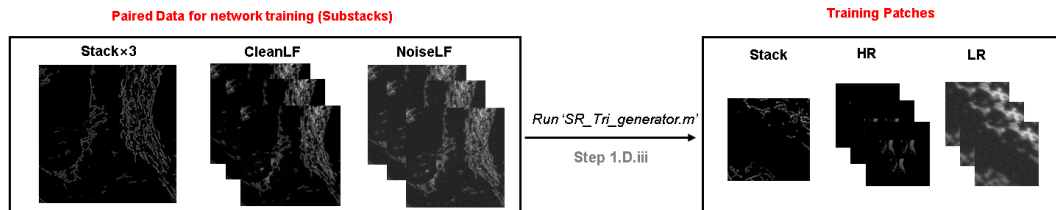

Fig. 4 Training Pairs Cropping.
E. Crop training pairs (Fig. 4)